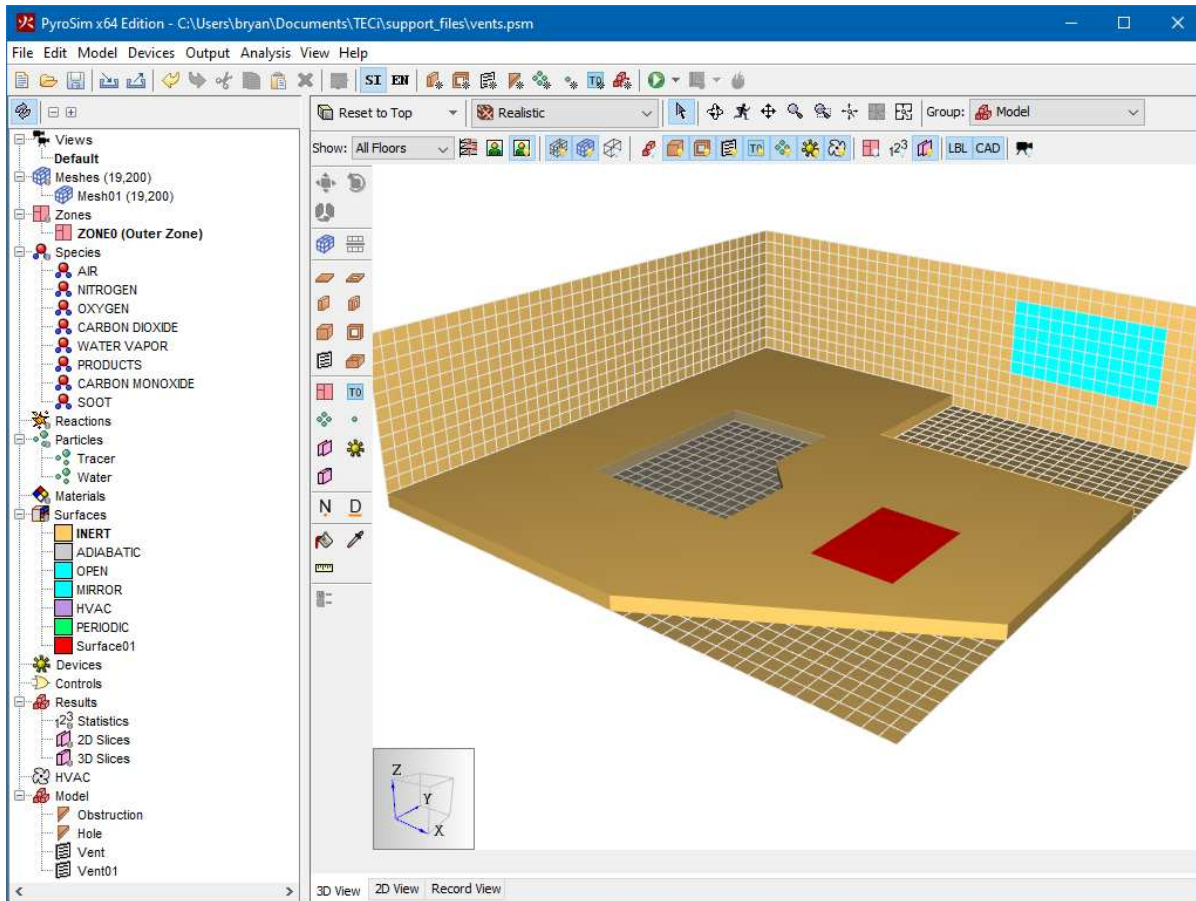

Figure 46. Vents on a mesh boundary and obstruction
**Vents** have general usage in FDS to describe a 2D rectangular patch on the surface of a **solid** obstruction or on a mesh boundary as shown in Figure 46. A **vent** may have a different surface applied to it than the rest of the obstruction to which it is attached.